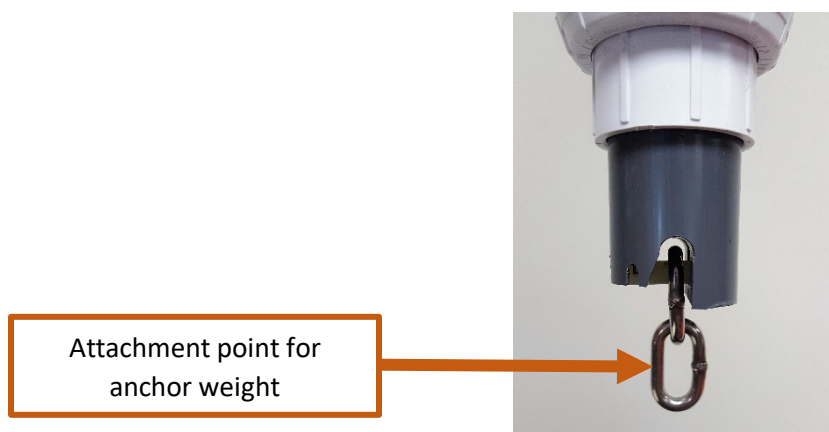

Figure 12
7. Attach the anchor weight to the chain link hanging from the release pin as shown in Figure 12.